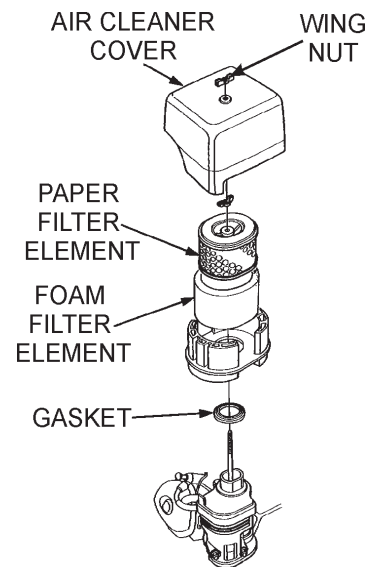

Figure 28. Engine Air Filter and Element
2. To clean or replace air filter loosen the wing nut on the air filter housing (Figure 28) remove the cover and take out air filter cartridge. If only cleaning of the air filter is desired blow through the air filter cartridge from the inside, moving a jet of dry compressed air up and down until all dust is removed.
- Using a 14 mm wrench remove the vibrator oil drain plug (Figure 28) from the vibrating plate assembly.